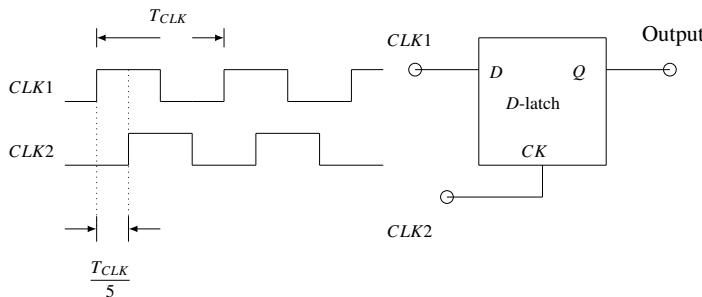

Fig. 5.16
16. Consider the D -Latch shown in Fig. 5.16, which is transparent when its clock input CK is high and has zero propagation delay. In the figure, the clock signal CLK_1 has 50% duty cycle and CLK_2 is a one fifth period delayed version of CLK_1 . The duty cycle at the output of the latch in percentage is _____. (GATE-EC2017)